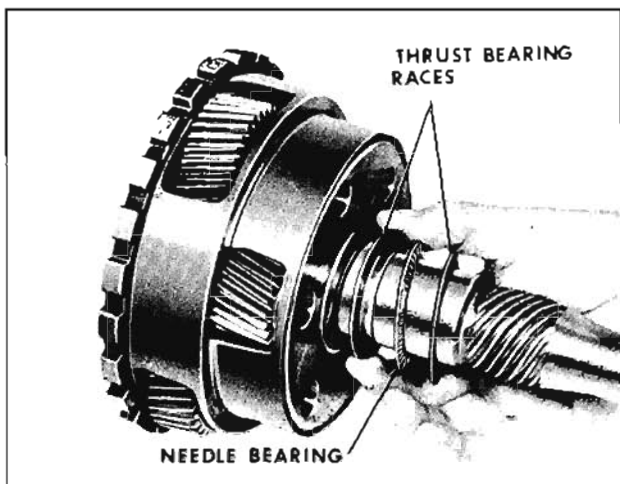

Fig. 6-288 Removing Planetary Gear Thrust Bearing
2. Remove needle bearing and two bearing races from rear of planet carrier. (Fig. 6-288)